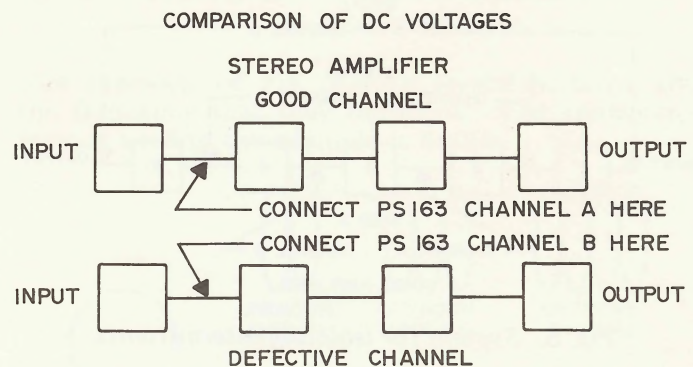

Fig. 4. Comparing voltages in stereo amplifier.
2. Use CHANNEL A on the working channel as your reference and CHANNEL B on the defective section. Connect both probes to the same point in each unit or amplifier, as shown in Fig. 4.